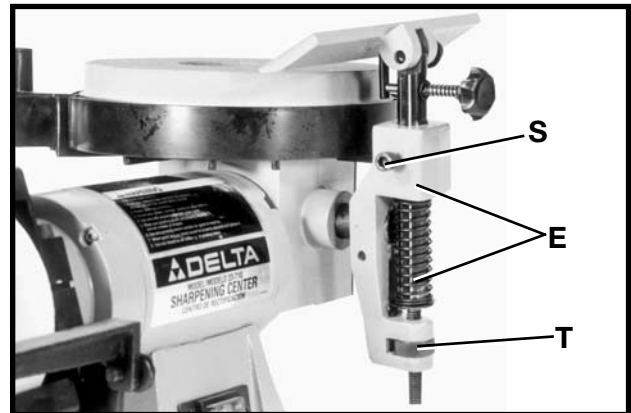

Fig. 14
5. To adjust the height of tool and chisel holder base assembly (E) Fig. 14, loosen screw (S) and turn adjustment knob (T). Tighten screw (S) after height adjustment is made.